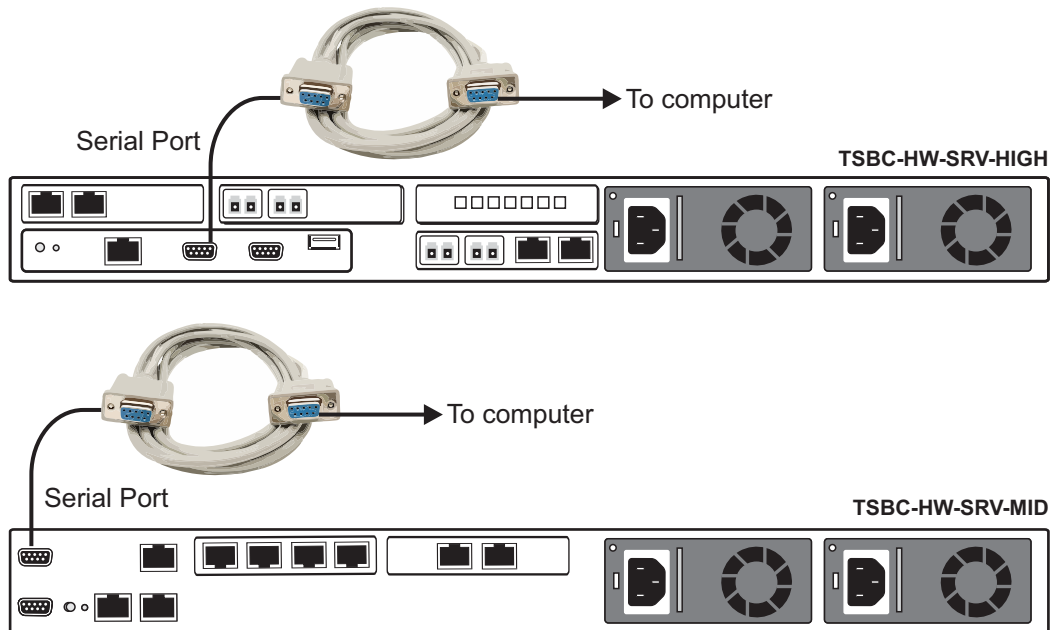

Figure 7.2 TSBC-HW-SRV Serial Port Connection
1. Connect a null modem DB9 female-female cable between the DB9 serial port of your computer and the DB9 serial port of the TSBC-HW-SRV. See Figure 7.2 on page 39.